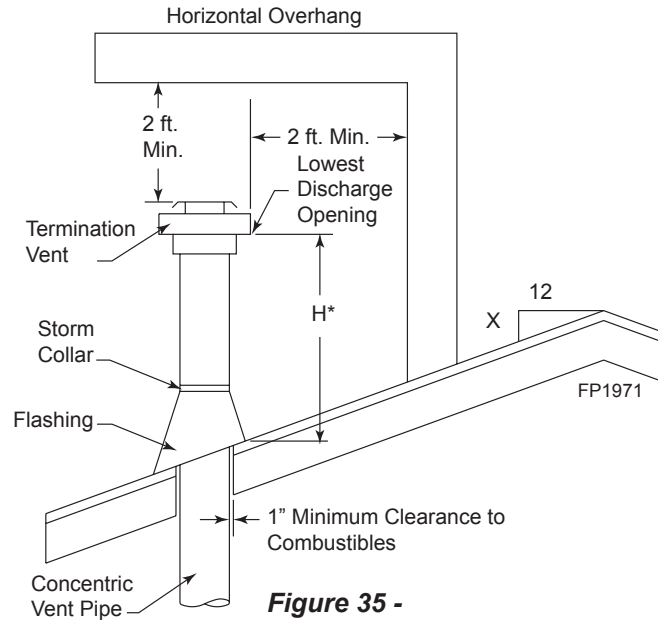

Figure 35 -
- Continue to add pipe sections until the height of the vent cap meets the minimum requirements as shown in Figure 35.